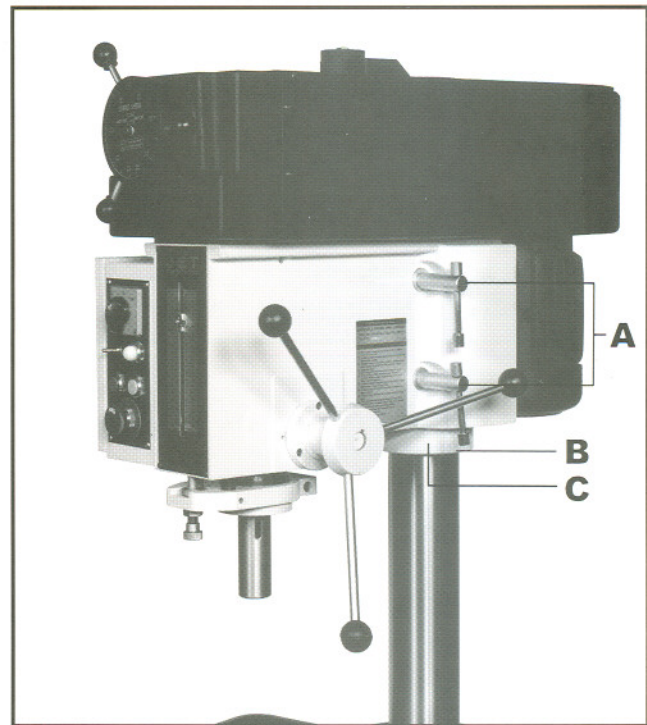

Fig. 2
5. Tighten the two head locking bolts (A, Fig. 2). This will hold the head in place until the lock collar can be moved into position. The 2" x 4" can now be safely removed.
6. After the head is set at the desired height, loosen two set screws (B, Fig. 2) on the lock collar.
8. Firmly tighten two set screw (B, Fig. 2).